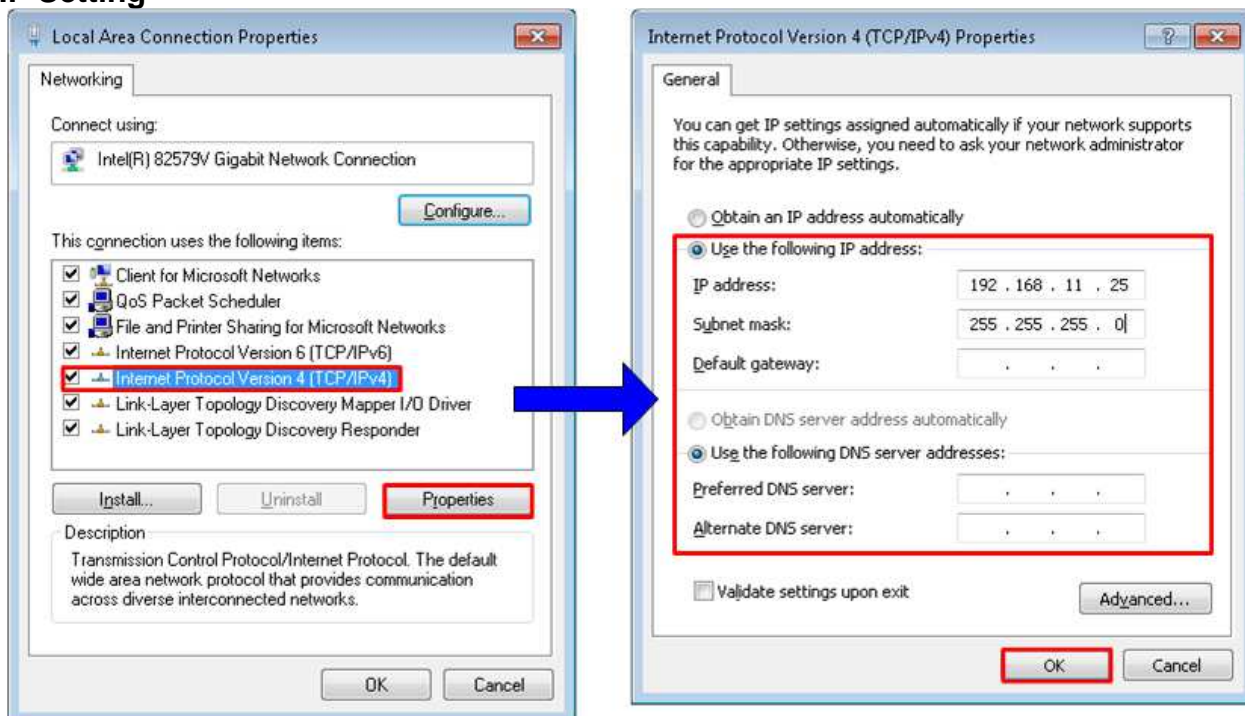

Figure 3-1 IPv4 Setting
- Open Local Area Connection Properties of test connection, as shown in left window of Figure 3-1.
- Set IP address = 192.168.11.25, and Subnet mask = 255.255.255.0, as shown in right window of Figure 3-1.